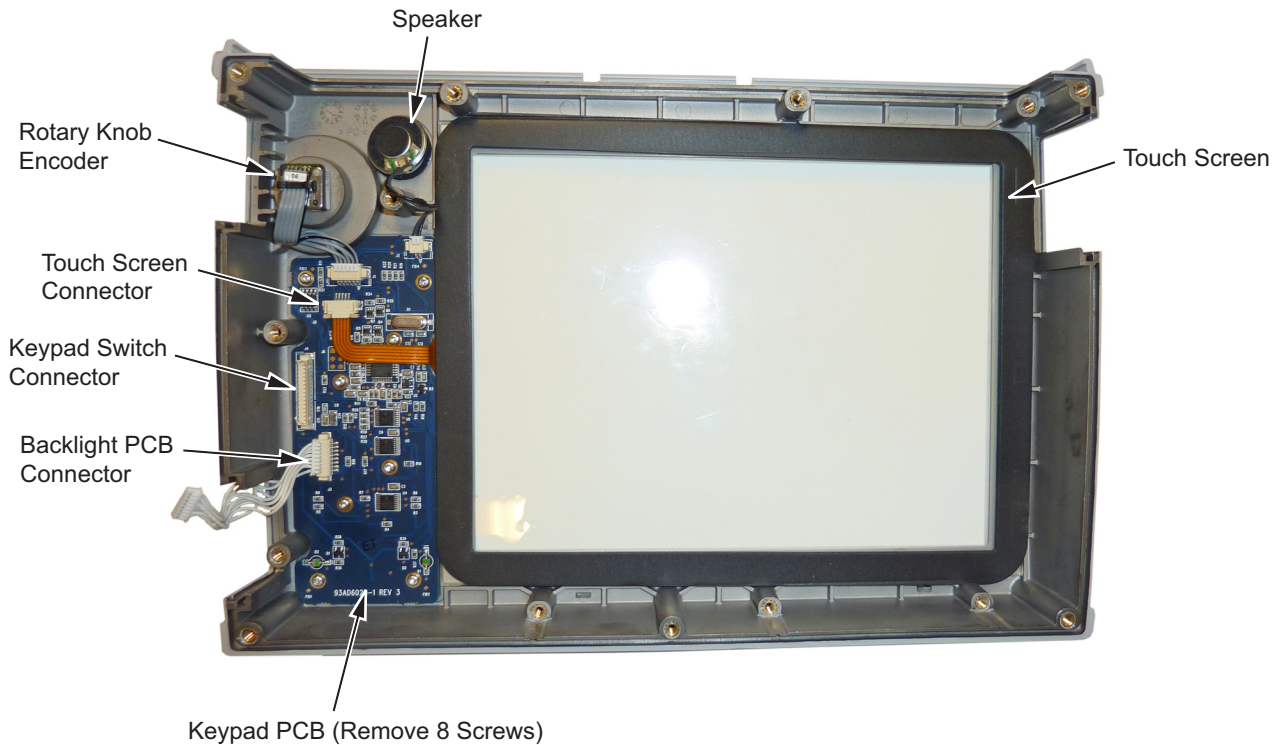

Figure 6-15. Front Panel Keypad Bezel
4. Remove the 8 screws and the cables attached to the keypad PCB allowing removal of the keypad PCB (Figure 6-15). The rubber keypad is located under the keypad PCB.